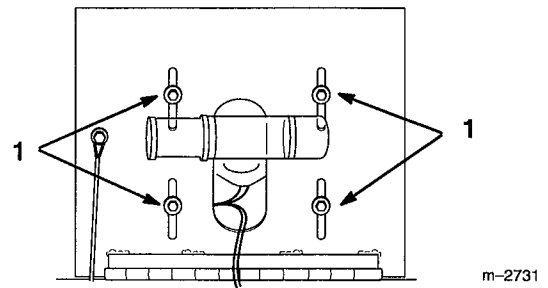

Figure 12
1. To adjust tip seat forward and loosen the seat mounting bolts (Fig. 12).